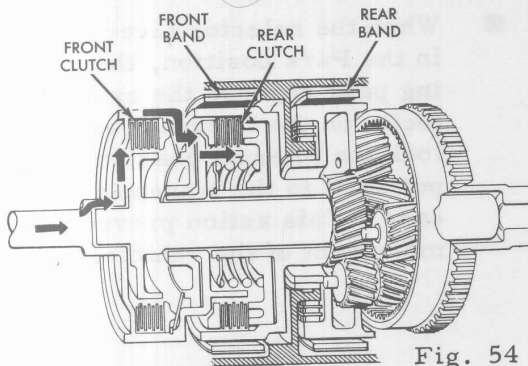

Fig. 54
- ⊗ When the transmission is in Neutral, none of the gears are held or driven (Fig. 54). No power is transmitted to the output shaft of the transmission.